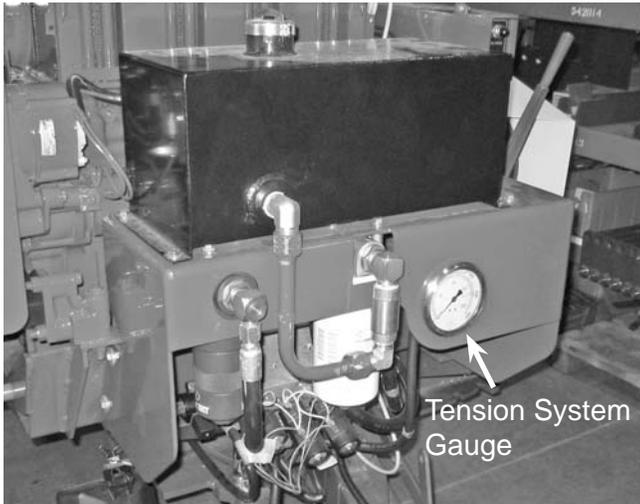
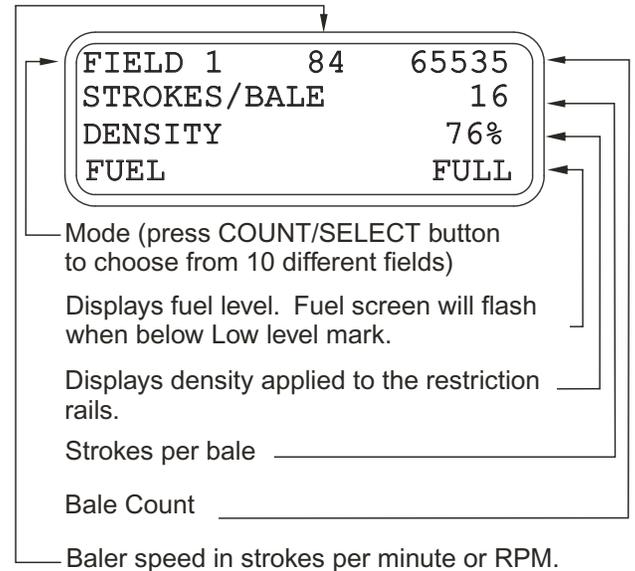

Figure 2 - Baler Control Panel
Figure 9 - Baling Screen
sion system is displayed as a percentage of the system pressure. See figure 9 on page 7 for an example. The typical system pressure ranges from 0 psi at 0% to 2300 psi at 100% of the density setting. The system pressure can be read from the Tension System Gauge (see Figure 2 page 2) located on the front of the baler.
ing screen (see Figure 9 page 7) will reset the bale count of current field. Pushing RESET when in the main menu (see Figure 10 page 8) will execute the option displayed on the bottom of the screen. Pushing Quickly pressing and releasing the Reset button will toggle work lights. Pushing and holding RESET when the Start-Up screen is displayed will prompt the Max Tension Pressure screen.
5. COUNT/SELECT button controls field selection and main menu. There are 10 field counts available with your monitor (see Figure 9 page 7). Pushing the count select button will move you from bale count Field 1 through Field 10 while in the bale screen. Push the COUNT/SELECT button for 2 second to access the main menu.
- Bale (see Figure 9)